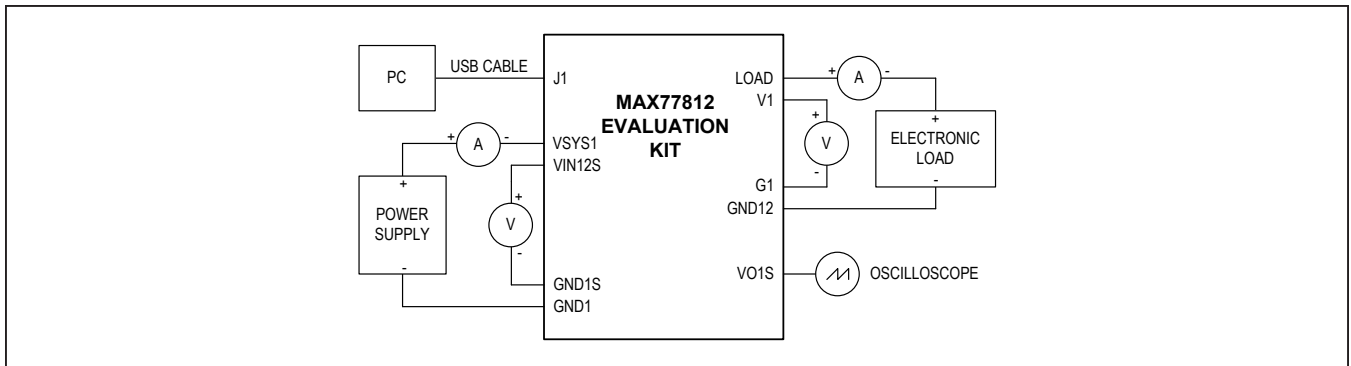

Figure 3. Quick Start Connection Diagram
- 3) Set up the test circuit as shown in Figure 3. Preset the DC power supply to 3.8V and current limit to 0.5A. **Do not turn on the power supply until all connections are completed.**